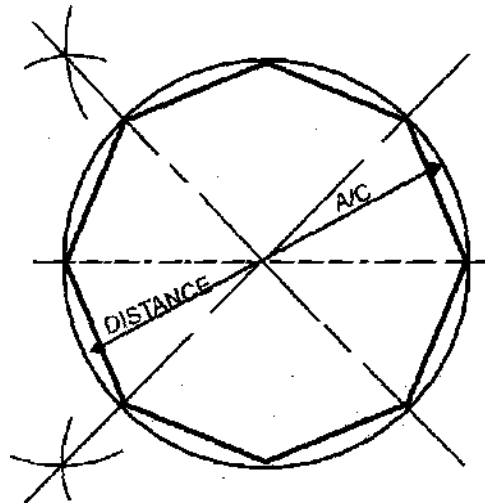

Fig7.5
- (iv) Join the eight points where the diameters cut the circles in (i) to form the octagon (see fig. 7.5).